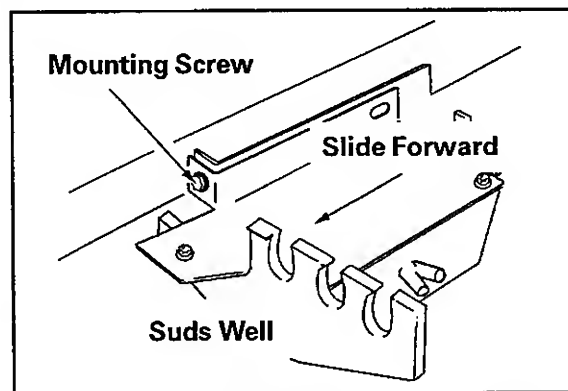

Figure 6-2
5. Remove the mounting screw holding the suds well into position. Slide the suds well forward and lower out of the way (*Figure 6-2*).